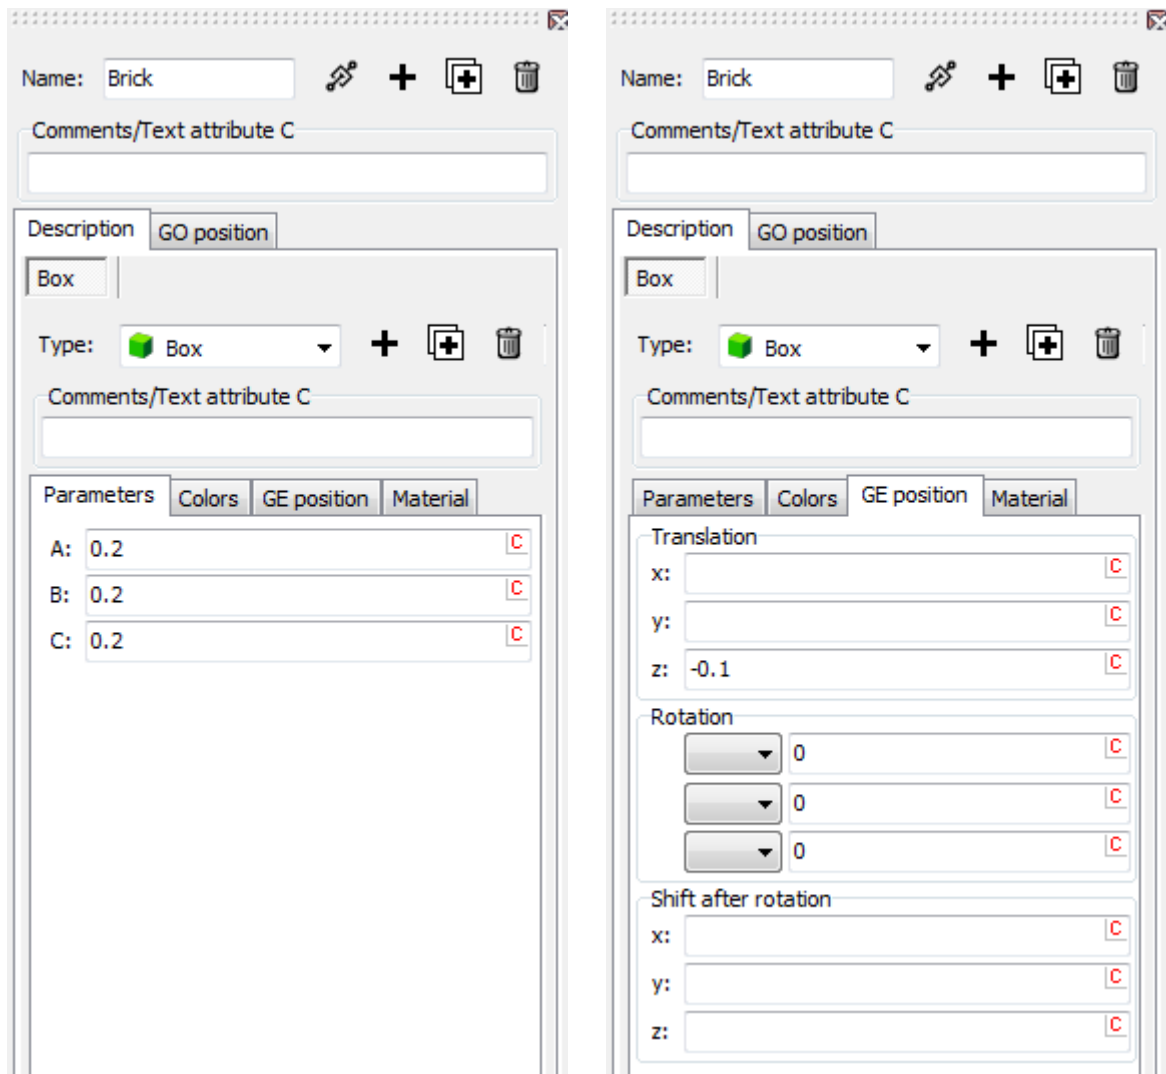

Figure 2.3. Creating the **Brick** graphical object
4. Set its parameters and GE position, see in Figure 2.3.